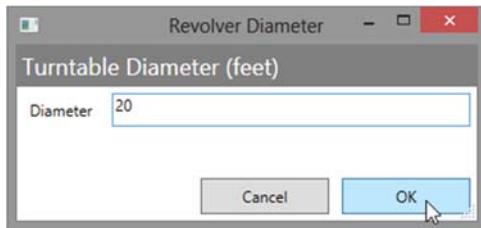

Figure 166
- Because the Position Scale of a Revolver is dependent on the diameter of your turntable deck, Spikemark prompts you for the diameter of your turntable (Figure 166).
- Enter in the diameter of your turntable deck in feet (Figure 166).